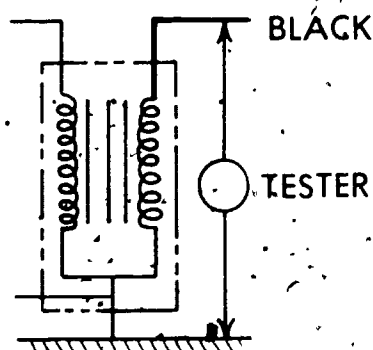

FIGURE 2
- D. Connect the ohmmeter from the coil secondary, (spark plug) lead to the coil primary ground lead (Figure 2)